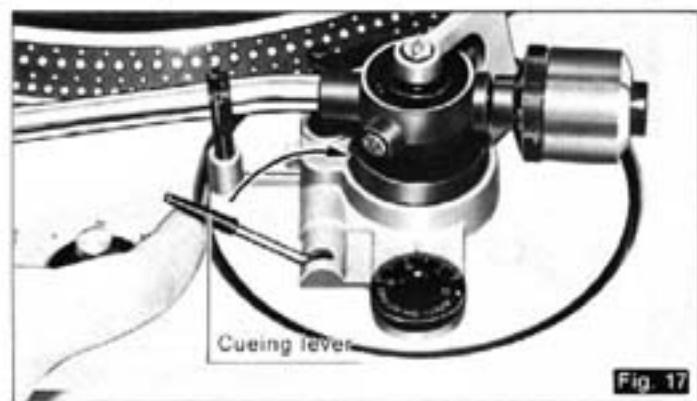

Fig. 17
- Lift the cueing lever as indicated by the arrow. (See Fig. 17).